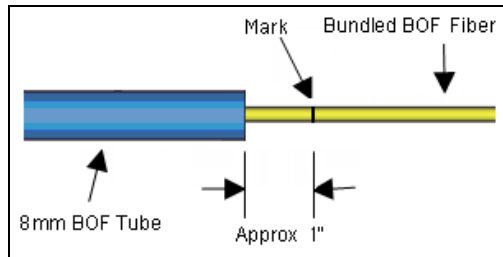

FIGURE 2L1-4. Bundle mark.
- a. Mark the bundle jacket approximately 25mm (1 inch) from the open end of the BOF tube (see FIGURE 2L1-4).